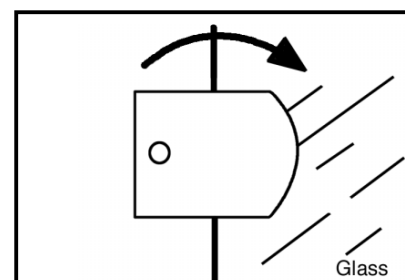

Fig. 2.
2. Turn the two securing brackets back to their original position to retain the glass and tighten the screws (Fig 2.)